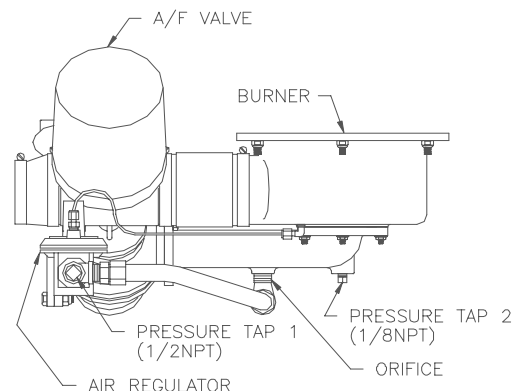

Figure 4.5
1. Refer to Fig. 4.5 and remove the 1/8" NPT plug from the gas inlet pipe ahead of the burner. Install a 1/8" NPT barbed fitting.
2. Remove the 1/2" NPT plug from the tee located after the air pressure regulator and install a 1/2" barbed fitting (see Fig. 4.5).